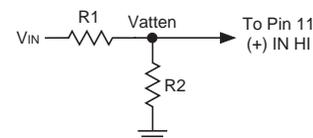

Figure 1. Resistor Divider
The resistor divider shown in Figure 1 easily accomplishes the task of reducing the raw input signal (V_{IN}) down to a level which a $\pm 2V$ -input meter (DMS-30PC-1-RS for example) can accept. However, the attenuated signal (Vatten) at pin 11 ((+) INPUT HI) still has a dc offset which has to be nulled. The following procedure can be used with many other input-voltage/ display-reading combinations. Two completely worked-out examples will be provided.
The DMS-EB Application Board for DMS-30 Series meters has locations for installing the required user-supplied components shown in Figures 1 and 2. For large OEM requirements, Murata Power Solutions can provide a completely wired and tested meter to suit your particular requirements. Please consult our sales or marketing engineers for more information.
Step 3. Find the input attenuator ratio r , and then use r to find $R2$ (see Figure 1):